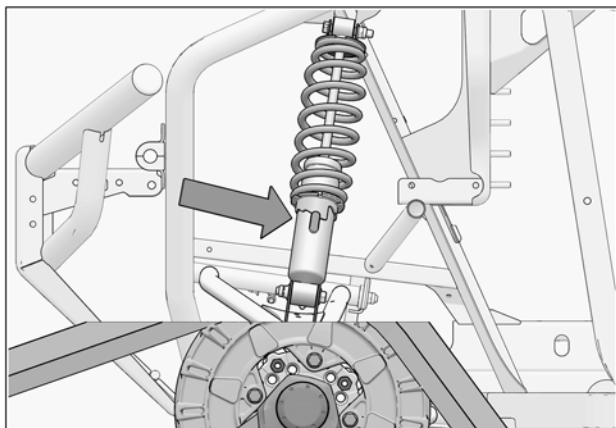

Fig. 31
1. Verify the suspension settings. If the shock absorbers are adjustable, adjust them to the stiffest setting to allow for maximum clearance between the System and the vehicle's fenders. See Fig. 31